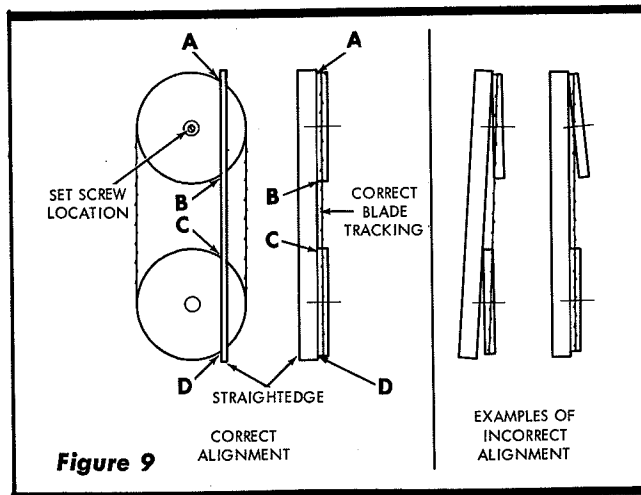

Figure 9
2. **WHEEL ALIGNMENT.** The upper and lower wheels must operate in the same vertical plane. This has been established when the saw was assembled at the factory. If, due to rough handling during shipment, the upper wheel has become misaligned, proper alignment may be accomplished as follows: (See figure 9.)
- a. After installing the saw blade, and rotating the wheels a few turns by hand, remove the baffle and saw table and place a straightedge across the two wheels at the end of the light support bracket, as shown in figure 9.